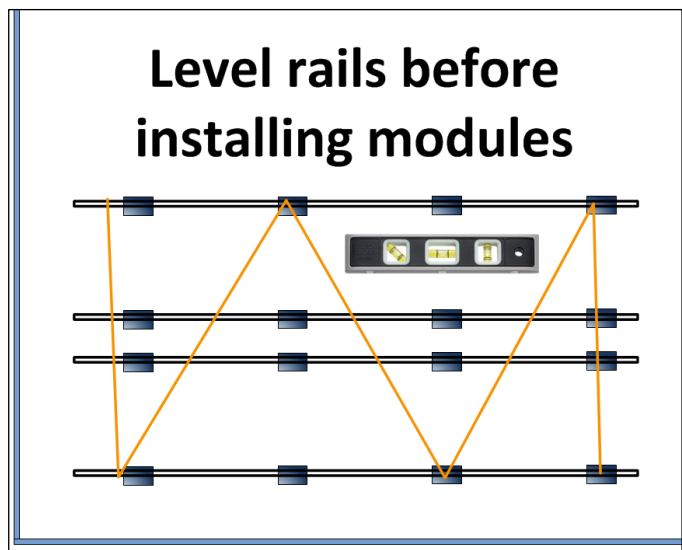

Fig. 9
- To ensure that the installed modules will appear as an even plane, SunPower recommends that you use a string line and level (or other method) to ensure that the top surface of the rails is even (Fig. 9).